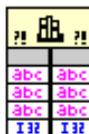

Figure 3. The configured driver icon, showing all the connectors, as seen on the Block-Diagram.
- 3) The driver is now configured to work in LabVIEW. The icon on the Block-Diagram will change and show all the connectors required for the proper operation of the driver (see Figure 3). The controls and indicators can now be created as shown in Figure 4.